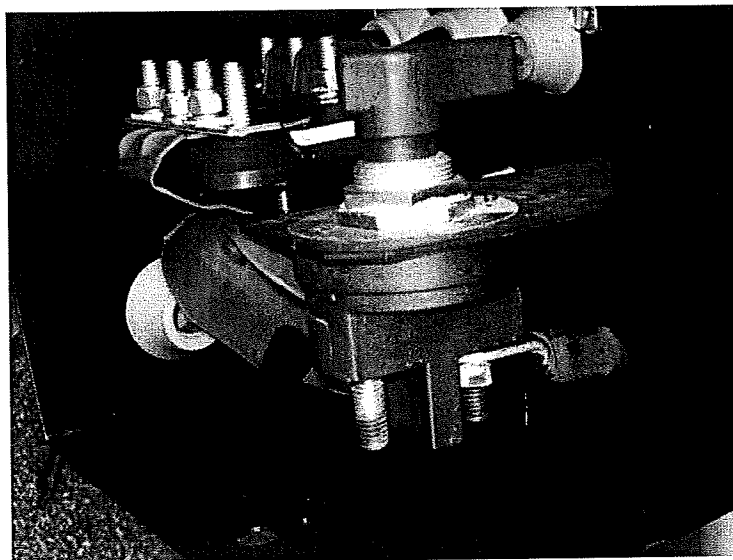

Figure 8
16. Once the Main Battery cable is connected to the Disconnect Switch assembly, mount the Disconnect Switch assembly into the enclosure using two (2) 1/4-20 Thread Cutting Bolts, TBB 61370975. Leave the mounting bolts loose & backed out by 1/4 inch. **Figure 8**